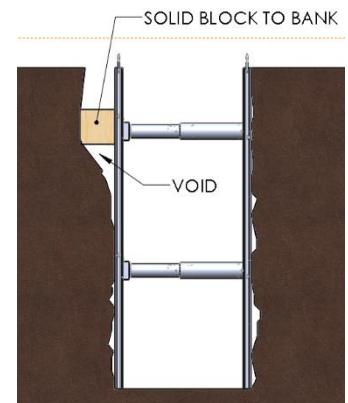

Figure 1: Voids in Excavation, See Note 5
5. Faces of excavations shall be vertical and there shall be contact with the soil at each cylinder, see **Figure 1.**